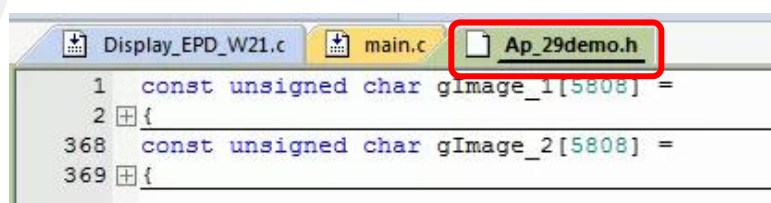

Figure 13 :change the image data
4)Click Ap_29demo.h in Figure 13 to change the image data that needs to be displayed(the image data needs to be achieved by image2lcd).